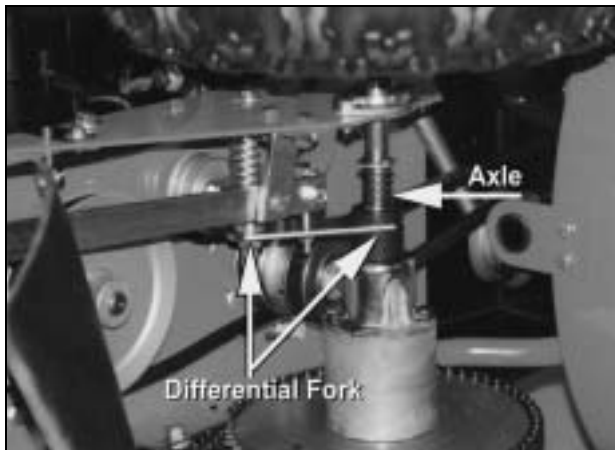

Figure 11
- The differential fork at both ends (*Figure 11*).
- The axle above the hub where the spring is (*Figure 11*).